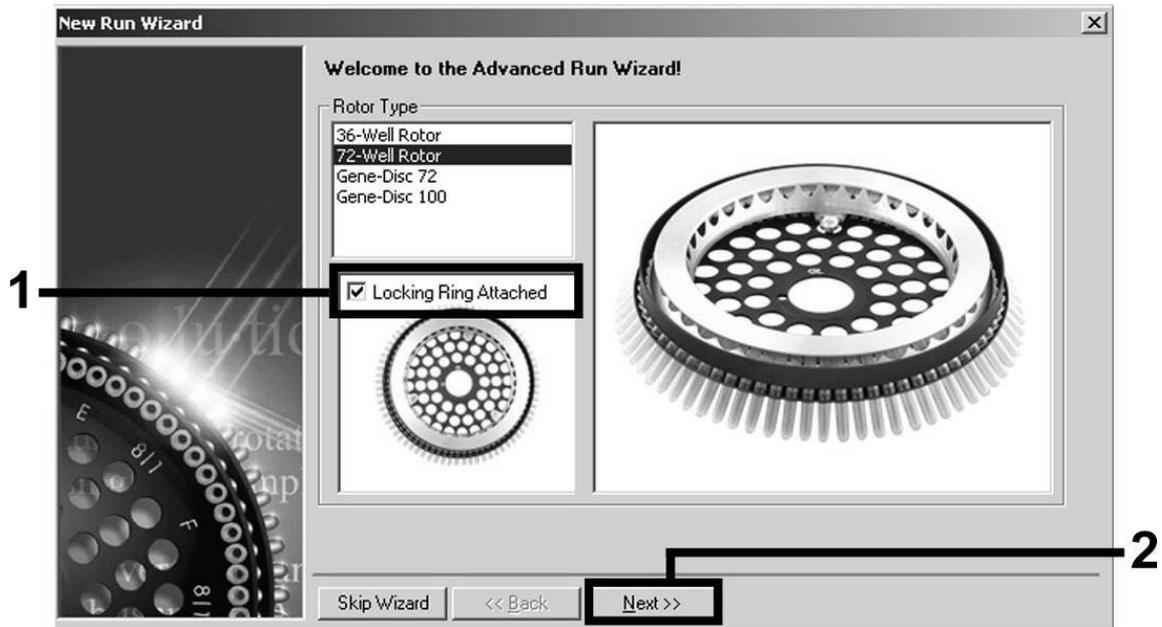

Figure 7. The “New Run Wizard” dialog box.
Setting the general assay parameters	Figures 7, 8, 9
4. First, open the “New Run Wizard” dialog box (Figure 7). Check the “Locking Ring Attached” box and click “Next”.